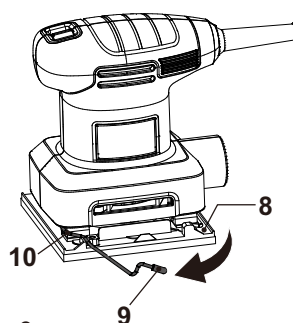

Fig. 4
- > Press the clamp lever (9) downwards along the base plate (8) to open the clamp bar (10) (Fig. 4).